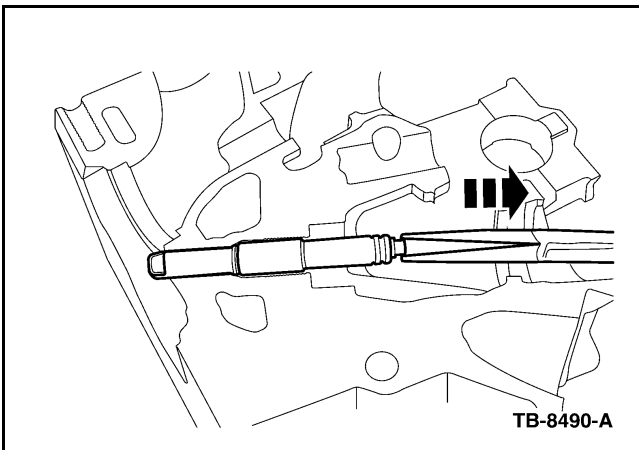

Figure 2 - Article 06-15-2
**Mode 2:** The porcelain center and ground electrode shield is left behind and only the upper jamb nut comes out. In this case more soaking is required and long-reach nose pliers should be used to grasp and remove the porcelain center from the ground electrode shield (Figure 2).